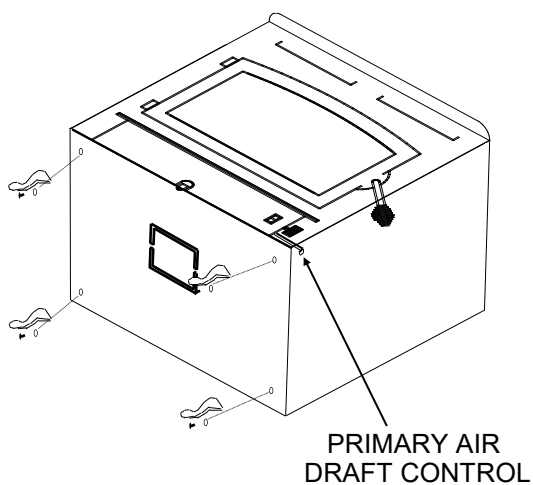

FIGURE 12
3. Check primary air draft control to ensure that it slides freely. Primary air control located on right side of stove under hearth (See Figure 12).
5. **(Leg Kit):** If legs are to be used, obtain four legs, attach legs to holes in bottom of unit with bolts and washers supplied with leg kit. (See Figure 12).